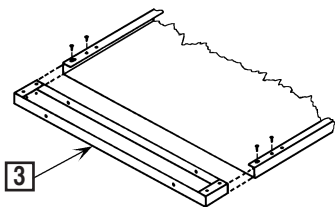

FIGURE 1
2. Insert leg attachment channel (Item 3) into bench top with the open area of channel facing upward. Position attachment channel so that the holes in the end flanges are in line with the oval and first hole in the front and back flanges of the bench top. Fasten channel to bench top with (4) screws and nuts (Items 6 & 7) as provided in the hardware pack. See Figure 1. Repeat procedure at the other end.